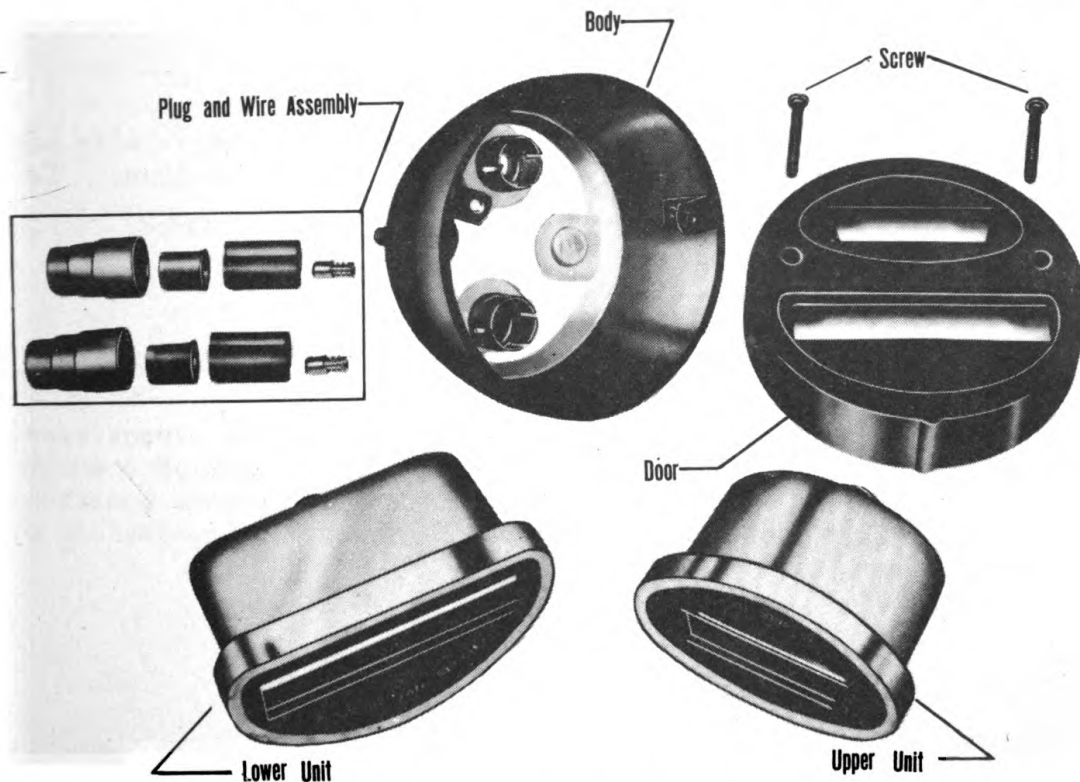

Figure 44—Components of Blackout Stop and Tail Lamps.
3. To obtain the accuracy necessary to insure this effect, the bulb is soldered to the lens retainer, and the lens and filter are crimped to the retainer to form a complete unit. When the bulb burns out, it is necessary to replace the complete bulb unit. (See figure 44.)
2. To replace a lens, turn the two screws (figure 44) that hold the lens housing to the lamp about three-quarters of the way